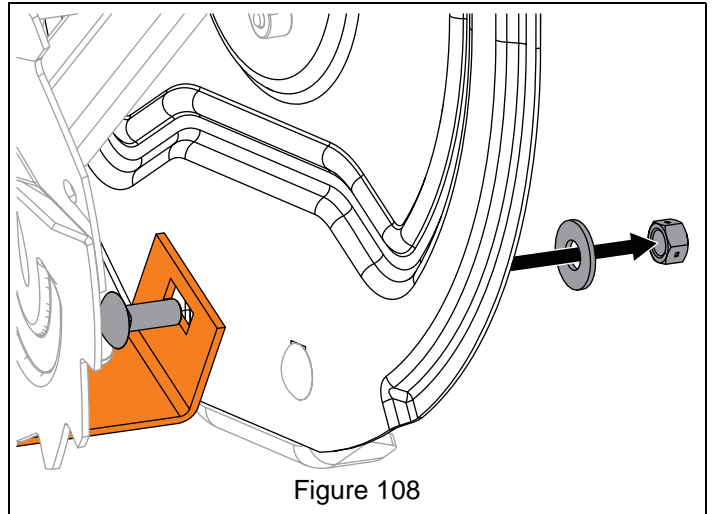

Figure 108
3. Remove hardware securing scraper blade ends to auger housing. See Figure 108.